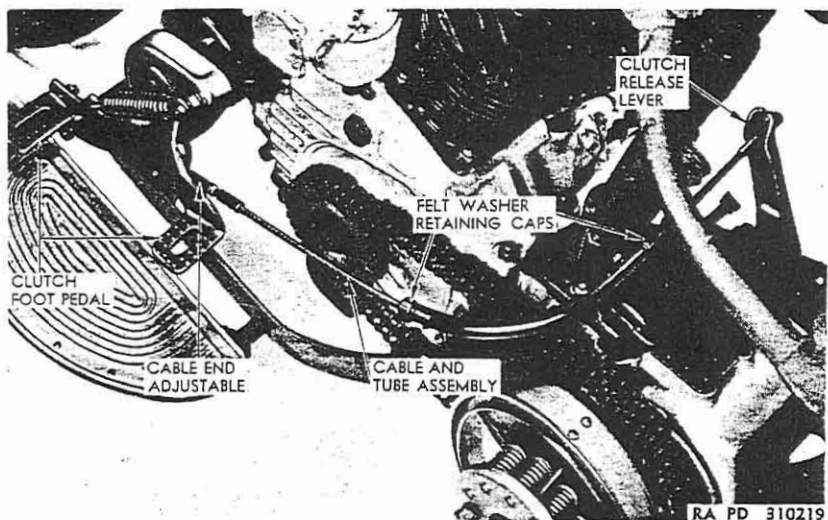

Figure 22—Clutch Control Linkage
48. MAINTENANCE AND ADJUSTMENT (figs. 22, 23, 24, and 25).
b. **Clutch Control Linkage** (fig. 22). Operation of foot pedal, control cable, and clutch release lever actuates the push rod through hollow transmission shaft, disengaging or engaging clutch at will. Correct adjustment to control cable and release lever must be made before push rod adjustment is made.